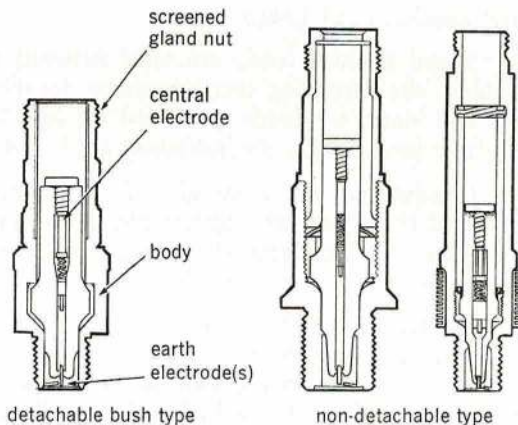

Fig 1.8.5 Detachable and non-detachable plugs
25. Sparking plugs are classified as 'detachable' or 'non-detachable', as illustrated at Fig 1.8.5. A detachable plug has a screen sleeve which may be removed for cleaning, whilst the central assembly still remains secure. *It is emphasized that the screen sleeves, where applicable, are the only parts of the sparking plug which may be removed for cleaning.* When a plug has been removed for bay servicing, it has to be degreased and cleaned, the gap checked and the plug tested. Before commencing this servicing, it should be emphasized that safety precautions must be obeyed and that reference should always be made to the Servicing Procedures (SP).